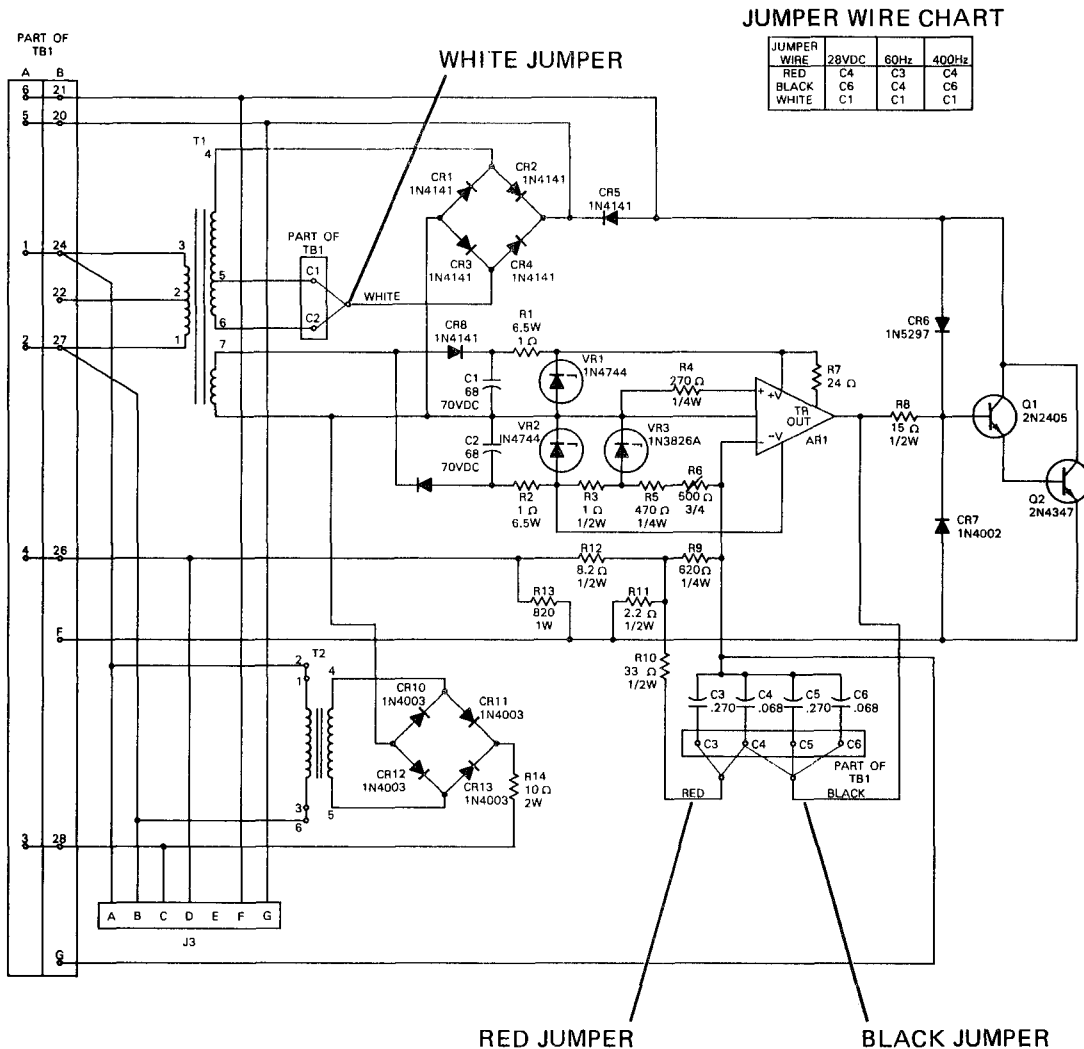

Figure 5-20. Standard Voltage Regulator Jumper Wire Placement.
- (1) Check that red, black, and white jumper wires are properly positioned for the generator output. Refer to Figure 5-20.